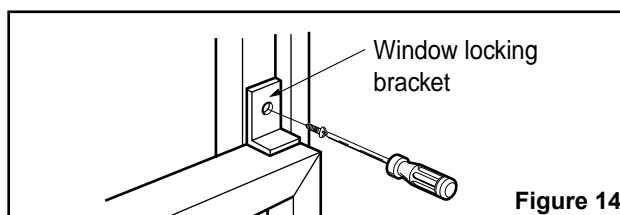

Figure 14
9. Attach the Window locking bracket with a screw (Type C.) (See Fig. 14)